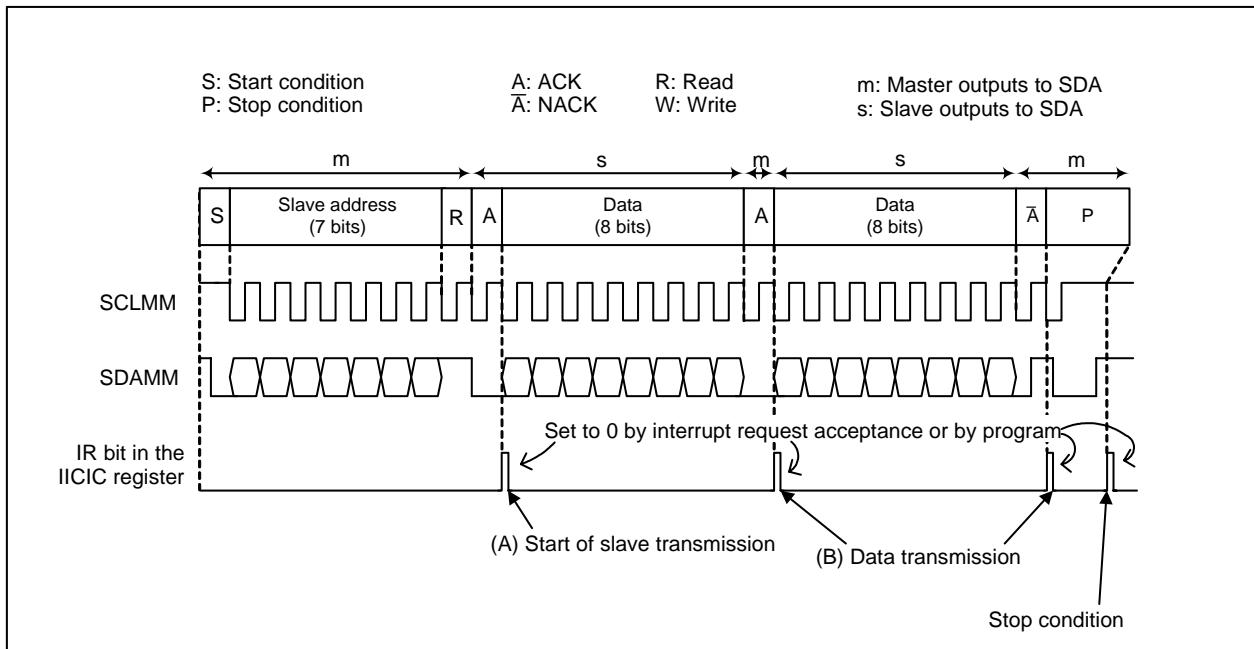

Figure 21.20 Example of Slave Transmission
- (1) Read the received data from the S00 register
- (2) Set the ACKBIT bit in the S20 register to 1 (no ACK presents) because the data is the last one.
- (3) Write dummy data to the S00 register.
The slave transmission is described in this section. The initial settings described in 21.3.10.1 "Initial Settings" are assumed to be completed. Figure 21.20 shows the example of slave transmission. The following programs (A) to (B) are executed at the (A) and (B) in Figure 21.20, respectively.